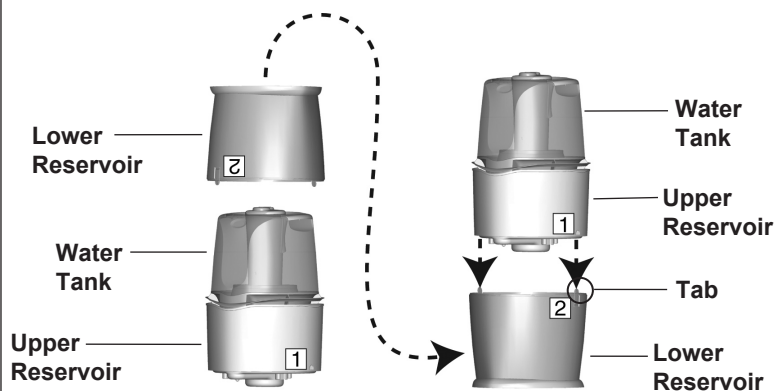

Figure 3
5. Lift the Upper Reservoir (marked with the number 1) and Water Tank and place them on top of the Lower Reservoir (marked with the number 2) so that the two tabs in the Lower Reservoir snap into the Upper Reservoir. See Figure 3.